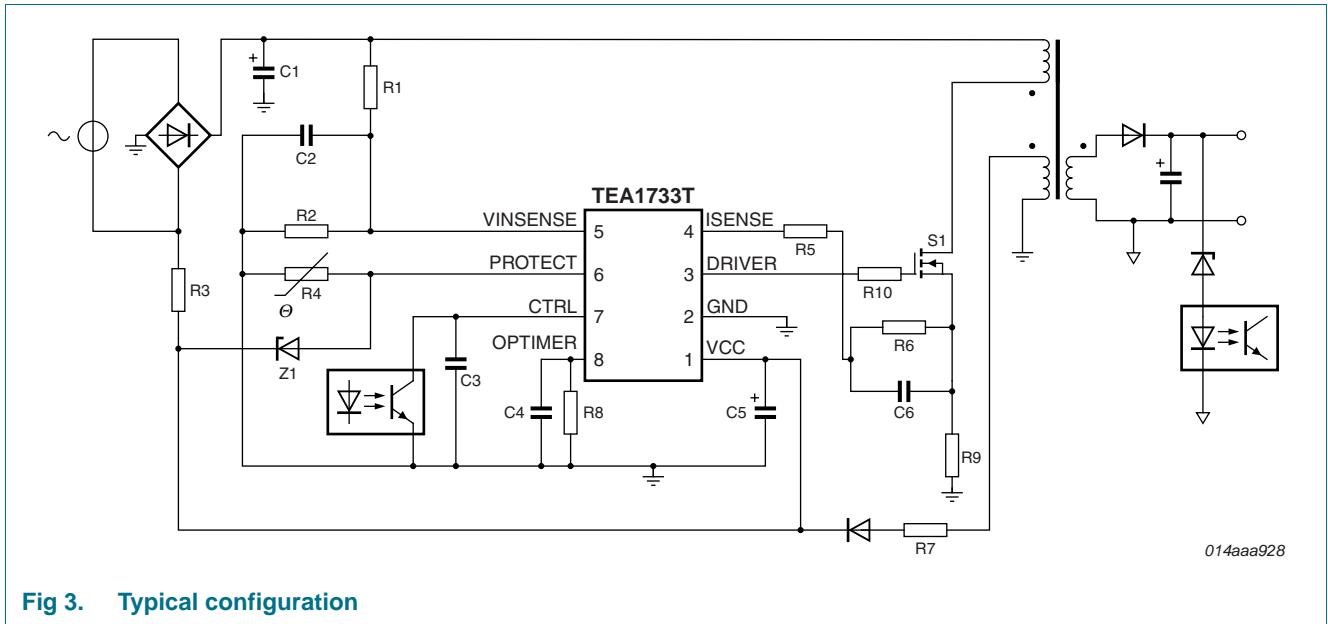
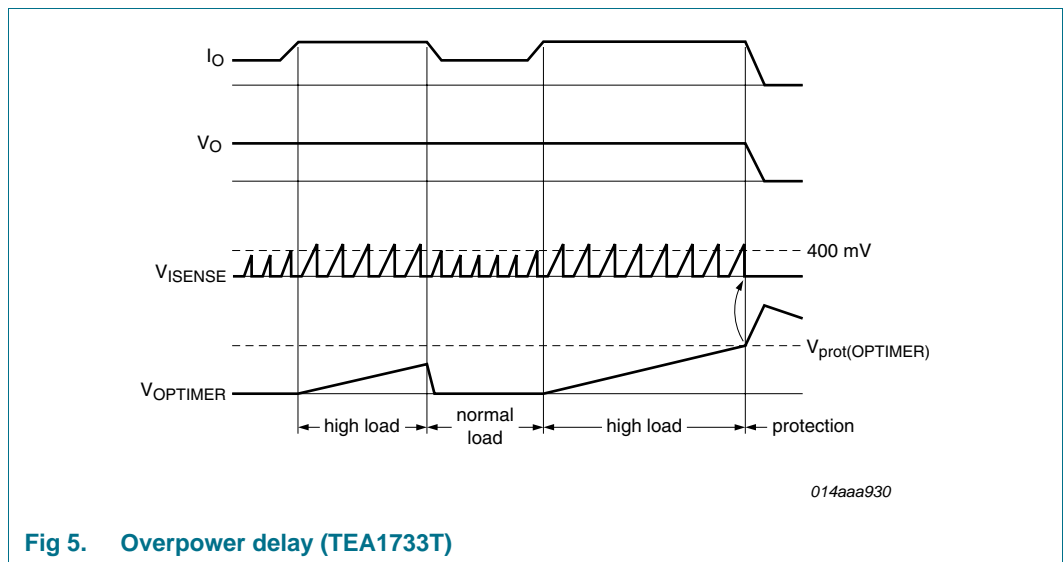
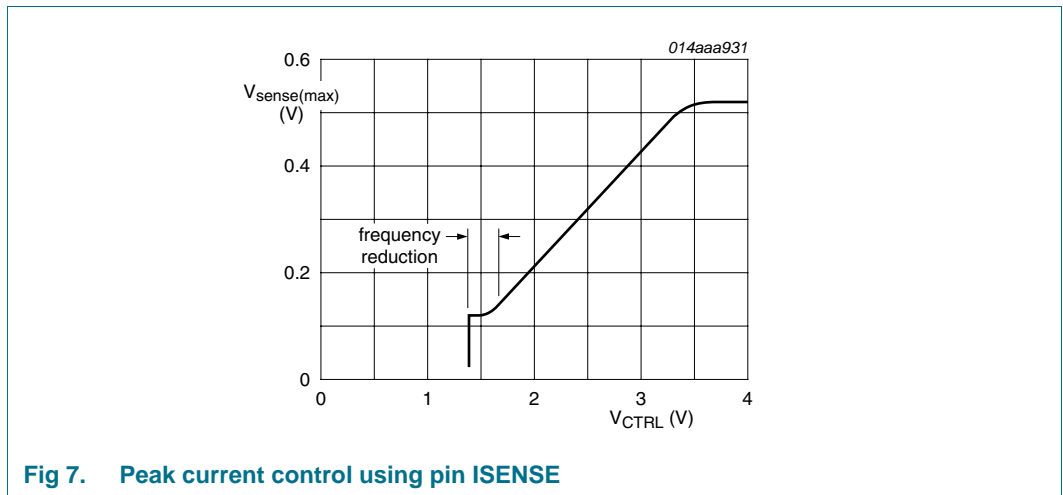
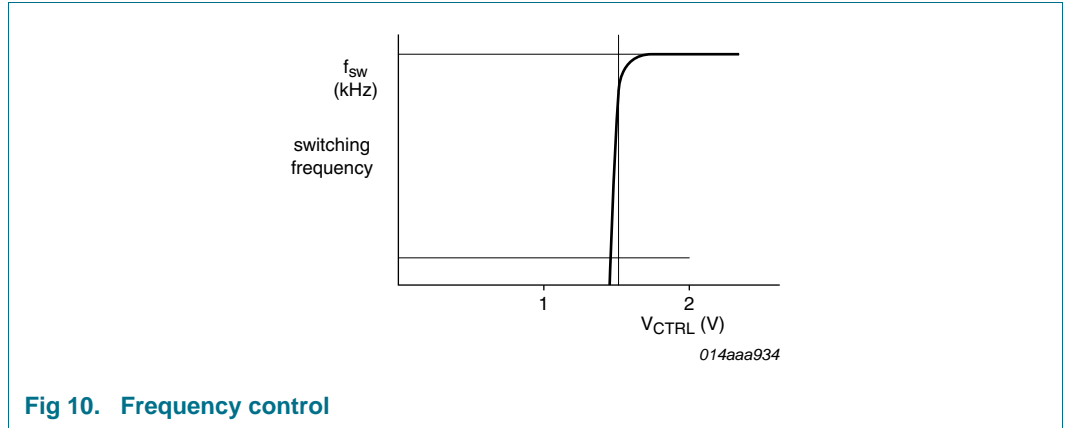

Fig 3. Typical configuration
Fig 5. Overpower delay (TEA1733T)
Fig 7. Peak current control using pin ISENSE
Fig 10. Frequency control
The TEA1733(L) contains a flyback circuit controller, a typical configuration of which is shown in Figure 3.
If the OPTIMER pin is connected to capacitor C4 (see Figure 3), a temporary overload situation is allowed. $V_{ctrl(Ipeak)}$ (see Figure 1) is set by the CTRL. When $V_{ctrl(Ipeak)}$ is above 400 mV, the $I_{IO(OPTIMER)}$ current (11 μA typical) is sourced from the OPTIMER pin. If the voltage on the OPTIMER pin reaches the $V_{prot(OPTIMER)}$ voltage (2.5 V typical) the OverPower Protection (OPP) is triggered (see Figure 5).
The primary current is sensed by the ISENSE pin across an external resistor R9 (see Figure 3) and compared with an internal reference voltage. The internal reference voltage is proportional to the CTRL pin voltage (see Figure 7).
A soft start is made to prevent audible noise during start-up or a restart condition. Before the converter starts, the soft start capacitor C6 (see Figure 3) on the ISENSE pin is charged. When the converter starts switching, the primary peak current slowly increases as the soft start capacitor discharges through the soft start resistor (R6, see Figure 3).
In low power operation switching losses are reduced by lowering the switching frequency. The converter switching frequency is reduced and the peak current is set to 25 % of the maximum peak current (see Figure 7 and Figure 10).